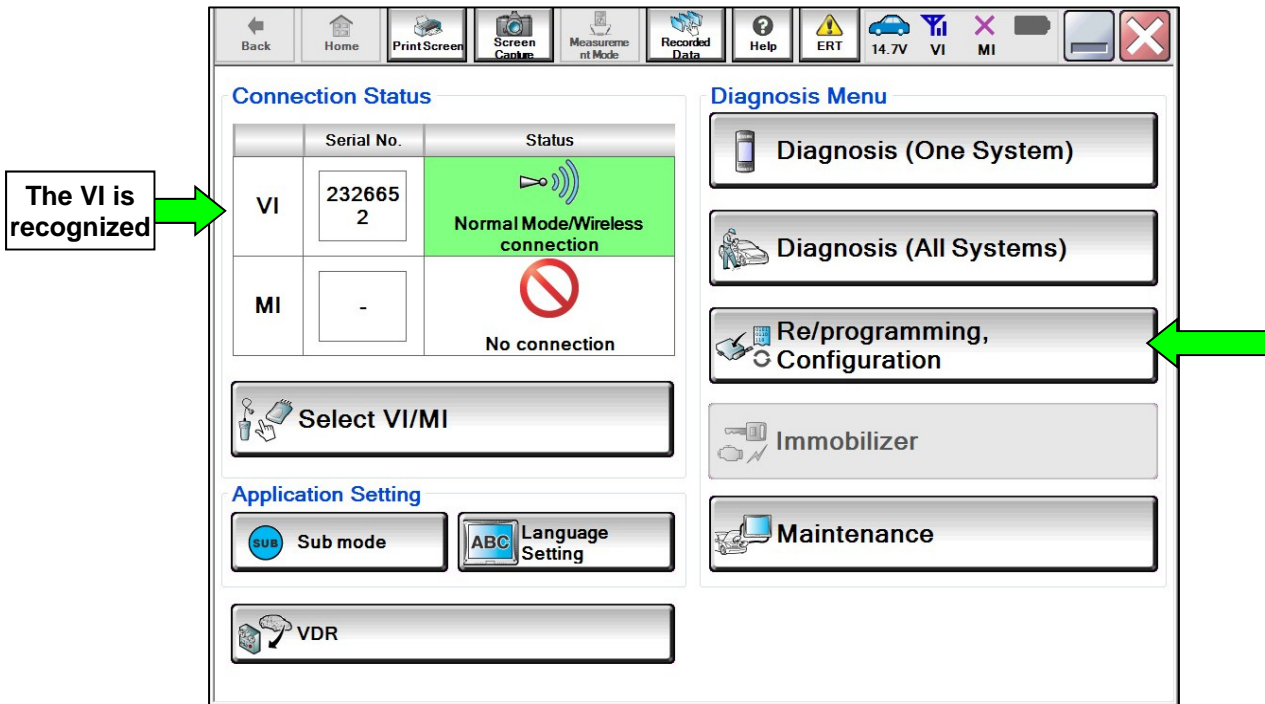

Figure 1
- The serial number will display when the VI is recognized (see Figure 1).